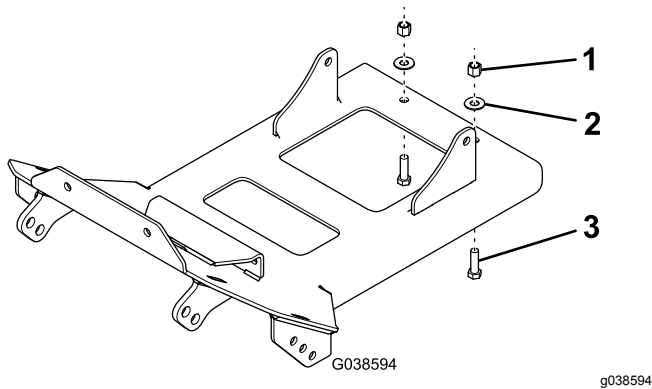

Figure 1
3. Secure the rear of the plow skid plate to the vehicle frame bracket using 2 bolts (3/8 x 1-1/4 inch), 2 washers, and 2 locknuts (3/8 inch) as shown in Figure 1.